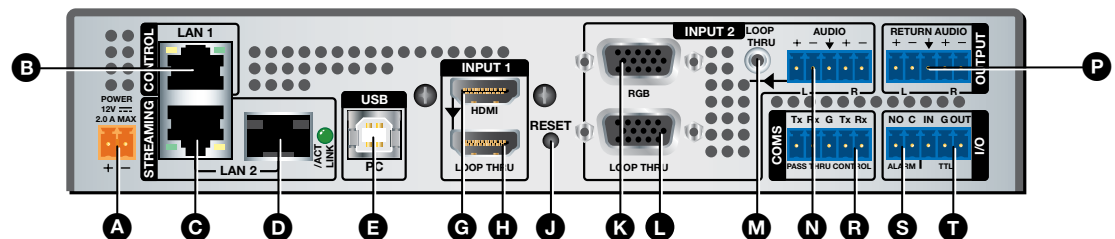
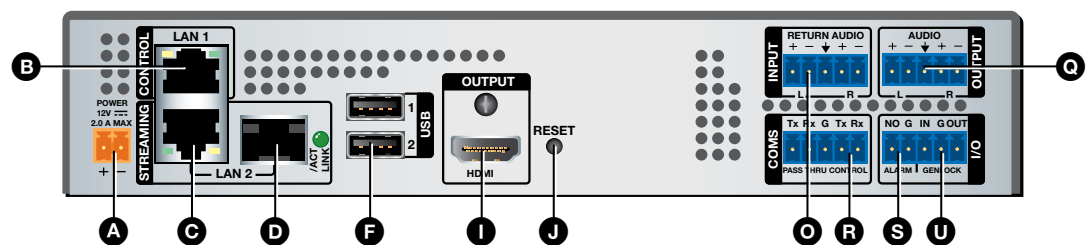

Figure 6. VNE 250 Rear Panel
Figure 7. VND 250 Rear Panel
The provided 12 VDC, 24 watt power supply connects to a 2-pole, 3.5 mm captive screw receptacle on the rear panel of the encoder (see figure 6, A on page 13), or decoder (see figure 7, A on page 13).
See figure 6 or figure 7, B, C, and D.
By default, the RJ-45 port is the active streaming network connection and the SFP cage (see figure 6, D on page 13 for the encoder or figure 7, D on page 13 for the decoder) is unpopulated.
To use the RJ-45 port (see figure 6, C for the encoder or figure 7, C for the decoder), connect this port to the network with a standard LAN cable.
4. Connect a single mode or multi-mode cable to the encoder (see figure 6, D), or decoder (see figure 7, D).
2. Connect the device to the network using the streaming LAN 2 port on the rear panel of the encoder (see figure 6, C or D), or decoder (see figure 7, C or D).
1. Connect a mouse and keyboard to the VND 250 rear panel USB ports (see figure 7, **F** on page 13).
2. Connect a PC to the VNE 250 rear panel USB port (see figure 6, **E** on page 13). This connection passes the mouse and keyboard control signals to the source PC.
The Coms port on the rear panel of the encoder (see figure 6, R on page 13), or decoder (see figure 7, R on page 13) is used for RS-232 pass-through communications, allowing a control device connected to one VNM 250 unit to control a remote device connected to a second VNM 250 unit.